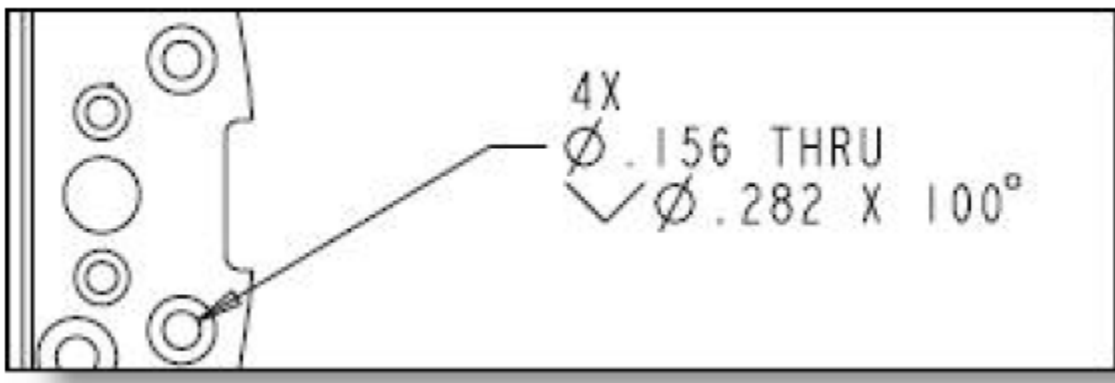

Figure 16 – Expensive Countersink Callout, Source: Pro CNC Inc.
- In many cases, the diameter of a countersink is not very critical and can often be dimensioned at a lower tolerance than the standard tolerances for the part. Unfortunately, we see all too often that the diameter tolerance is left as a 3 decimal place dimension which would assign a higher tolerance than is needed - generally ± 0.005 ". See Figure 16.